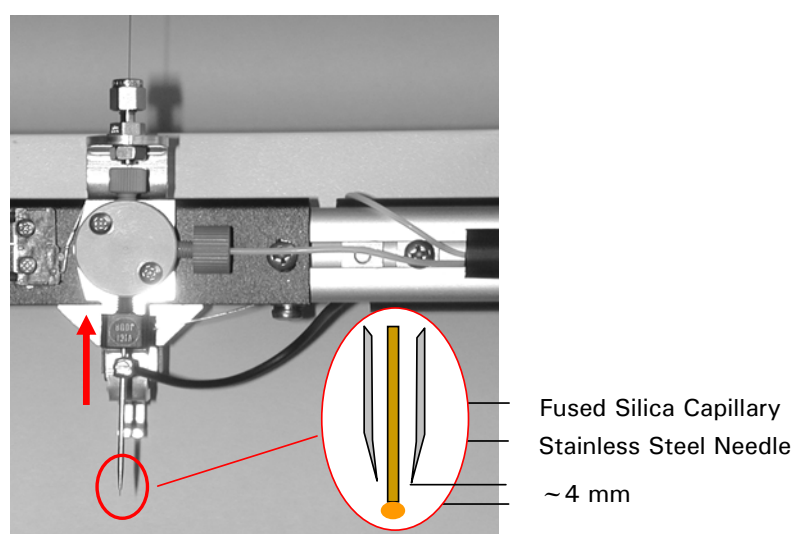

FIGURE D-2 The Needle in upper Position
FIGURE D-2 shows the needle tee in the upper position (e.g. the lift magnet is powered). The needle is lifted by approximately 5 mm so that the tip of the fused silica capillary extends the tip of the steel needle by approximately 4 mm.
- Check that the fused silica capillary extends the needle tip by approximately 4 mm (0.0016 inch, FIGURE D-2).